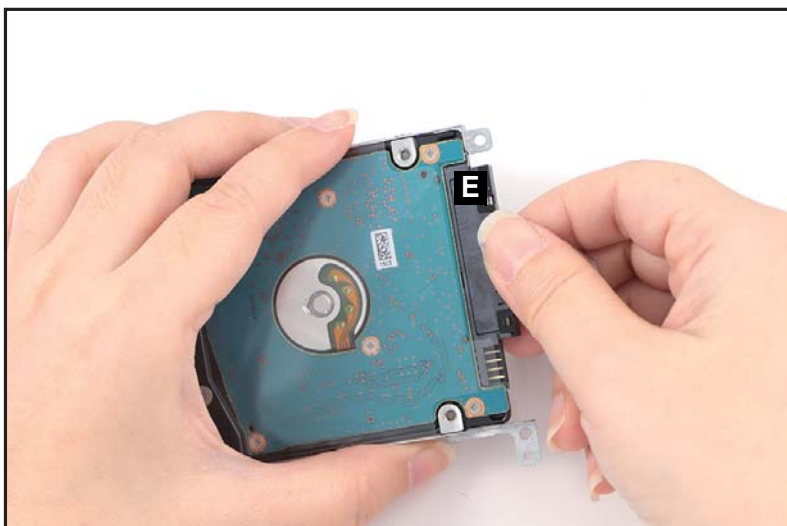

Figure 1-29. HDD Module Removal
4. Disconnect the HDD cable from the HDD module connector (E) (Figure 1-29).